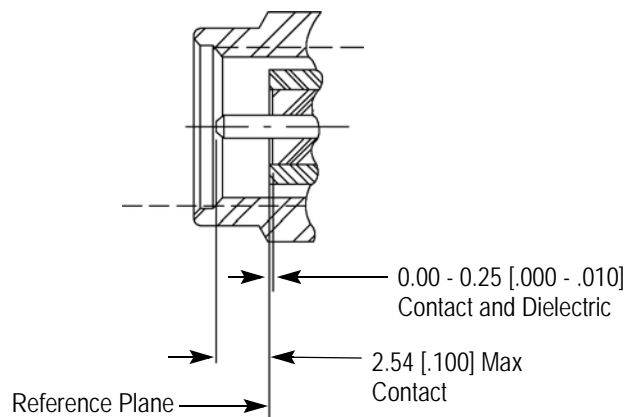

Figure 5
10. Adherence to assembly procedure should yield tolerances shown in Figure 5.